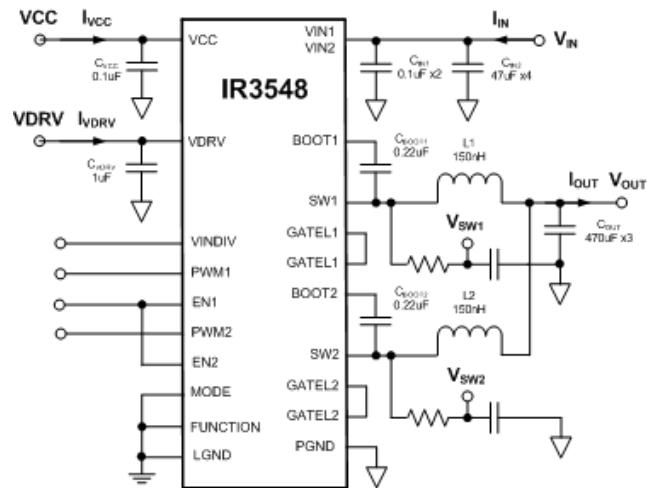

Figure 34: IR3548 Power Loss Measurement
Circuit of Figure 34,  $V_{IN}=12V$ ,  $V_{OUT}=1.2V$ ,  $f_{SW} = 400kHz$ ,  $L=150nH$  (0.29mΩ), Two Phases, Dual Driver, PWM Mode,  $V_{CC}=5V$ ,  $V_{DRV}=7V$ ,  $T_{AMBIENT}=25^{\circ}C$ , no heat sink, no air flow, 8-layer PCB board of 3.7"(L) x 2.6"(W), no PWM controller loss, no inductor loss, unless specified otherwise.
The two-phase IR3548 efficiency and power loss measurement circuit is shown in Figure 34.